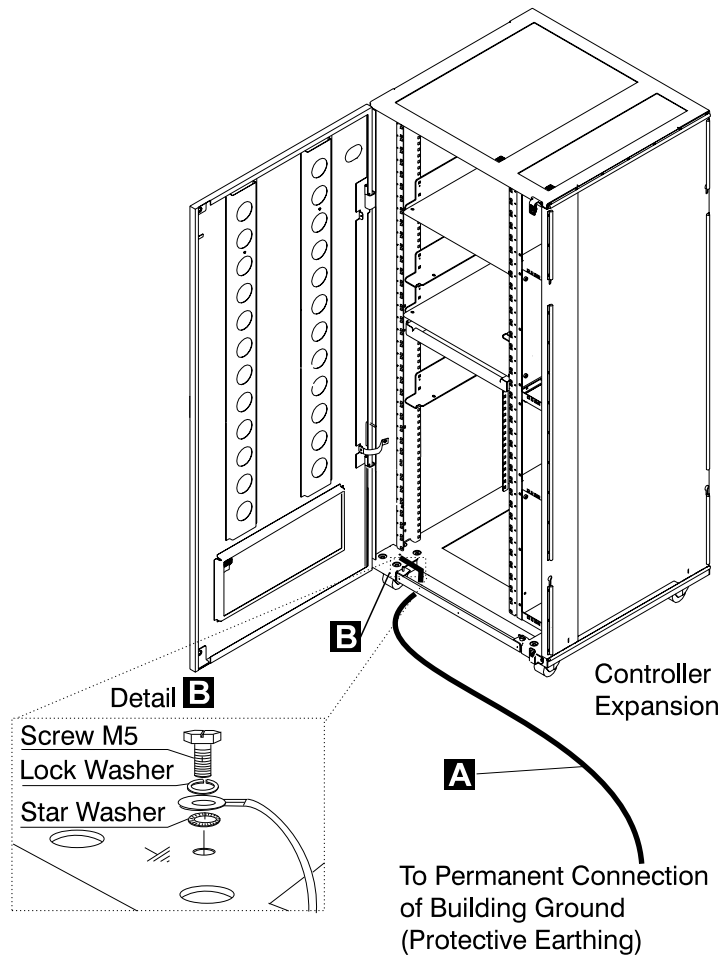

Figure 6-10. Installing the Controller Expansion Alone
- 1) \_\_\_\_ Refer to Figure 6-10 on page 6-12 and install the controller expansion in its final position